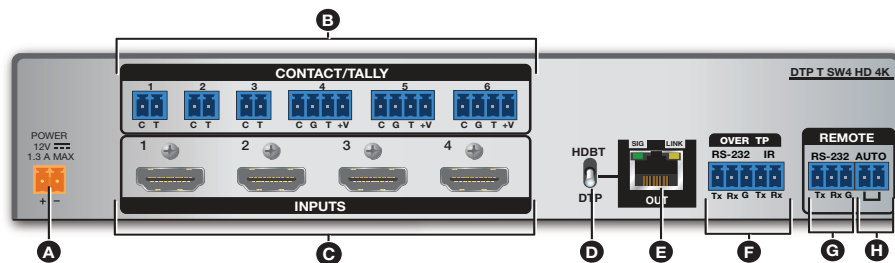

Figure 1. DTP T SW4 HD 4K Rear Panel
3. Connect HDMI input sources to one or more of the DTP T SW4 HD 4K HDMI Inputs (see figure 1, **C**). The default (Extron) EDID is present at each input and Hot Plug Detect (HPD) is actively controlled on each input.
5. **Connect Over TP RS-232 and IR control.** Connect a serial RS-232 signal, a modulated IR signal, or both into this 3.5 mm, 5-pole captive screw connector (see figure 1, F, on the previous page) for bidirectional RS-232 and IR communication (see the image on the right to wire the RS-232 and IR connector).
- **RS-232 port** — Connect the unterminated transmit, receive, and ground wires of the RS-232 cable to the three pins on the provided 3-pole captive screw plug, as shown in the image on the right. Connect the plug to the rear panel Remote RS-232 connector (see figure 1, G), and the other end of the cable to your computer serial port. Protocol for the RS-232 port:
7. **Enable auto-input switching** (optional). Use a jumper wire to connect the two pins of the 2-pole captive screw plug (see the diagram to the right). Attach the plug to the Remote Auto switch port (see figure 1, H).
8. **Connect Contact/Tally input sources** (optional). Connect a push-button contact closure device to a Contact port (see figure 1, B, on the previous page) to enable input switching via contact closure.
9. **Connect an indicator device to the Tally Out port** (optional). To identify the currently selected input when the front panel buttons are not visible, connect a device such as an LED to the Contact In/Tally Out port (see figure 1, B on the previous page). When the input you are using is selected, the corresponding Tally Out pin shorts to ground, activating the connected indicator.
10. **Connect power** (optional, see figure 1, **A** on page 1). Connect an IEC power cord between the included 12 VDC power supply and a 100-240 VAC, 50-60 Hz source. Connect the power supply to either transmitter or receiver. Use the included tie-wrap to strap the cord to the captive screw connector (see the diagram on the right for wiring).